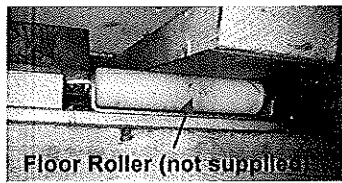

Figure 5
4. The system is now ready to raise the bunk. Press and hold the BUNK LIFT MOTOR buttons 1 and 2 on the back of the Wall Switch (Fig. 5).
4. Verify that the weight of the room is supported by the floor rollers and not the slide out mechanism (FIGURE 5). **NOTE:** If the room is not completely supported by the floor rollers, you will hear a slight "popping" sound as the room settles on to the rollers. This is normal, and there is nothing wrong with the system or the install.